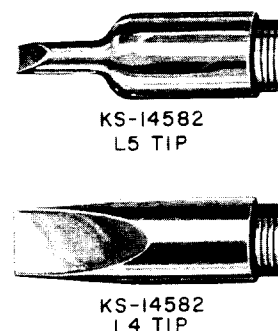

Fig. 1—Tips For KS-14582 Soldering Copper
1.04 Two sizes of tips are provided for the KS-14582 L1 and L2 Soldering Coppers. The larger tip, designated L4, is used for heavier soldering operations such as splicing and maintaining cables. The smaller tip, L5, is used for lighter work, such as soldering conductors on terminal lugs (Fig. 1).